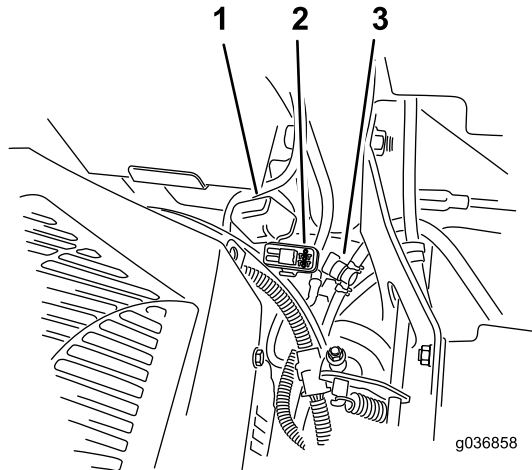

**Figure 54**
**Note:** For MyRide machines, ensure that the ground cable does not rub against the trailing arm or lower shock mount (Figure 54).
The fuses are located on the right console next to the seat (Figure 54).
2. Install a new fuse (Figure 54).